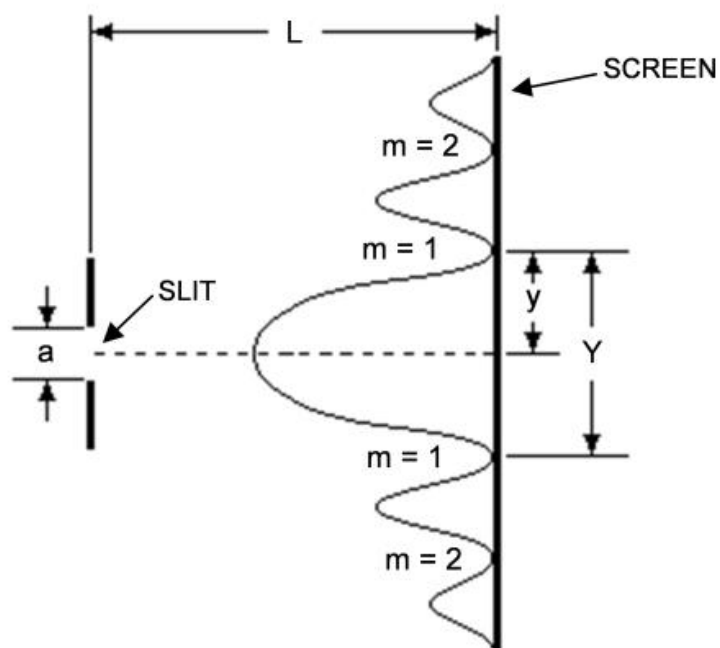

FIGURE 3 - Single slit diffraction
The main difference in the pattern is that the central bright spot for one slit is twice as wide as the central bright spot for two slits. See **Figure 3**. There are other differences but they will be left for you to discover during the lab. Also the width of the slit is **a**, note this is not the distance between the slits as before, but also note we had an **a** value for the double slit experiment.
- Measure the distance, **Y**, from one dark fringe to the other for the **same order number**. See **Figure 3, you're measuring from m=1 to m=1, m=2 to m=2 and so on**. Place these values in the table.